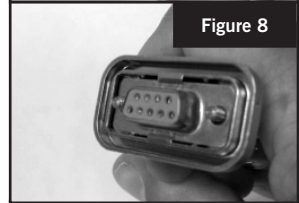

Figure 8
12. Remove assembly key and verify D-sub connector is inside both slots. (See figure 8)